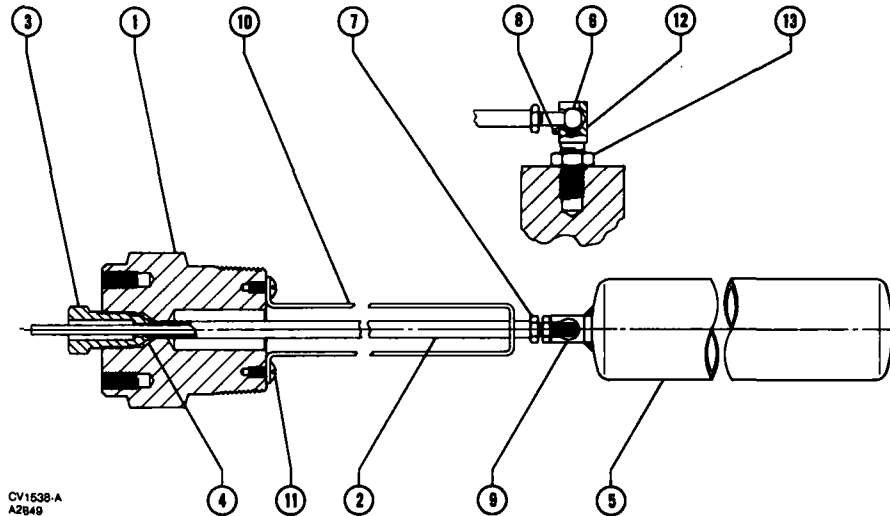

Figure 9. Type 244V Sensor
2. Secure with two cap screws (key 21).
3. Slide the flapper carrier onto the flexure tube assembly (key 2, figure 9, 10, or 11).
4. Install the O-ring (key 24) onto the nozzle (key 23).
5. Screw the nozzle assembly into the base plate (key 20).
6. Install the flapper insert (key 22) into the flapper carrier (key 42). Secure with machine screw (key 43).